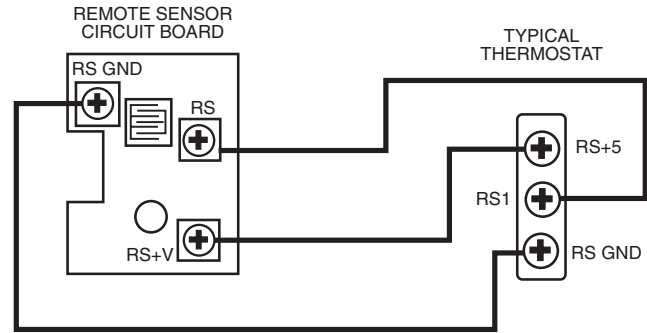

Fig. 2 — Remote Temperature Sensor Wiring
7. Connect wiring to sensor and thermostat wiring terminals. Be sure to follow color coding scheme. See Fig. 2. Connect RS GND terminal on remote temperature sensor circuit board to RS GND terminal on thermostat. Connect RS terminal on remote temperature sensor circuit board to RS1 terminal on thermostat. Connect RS+V terminal on remote temperature sensor circuit board to RS+5 terminal on thermostat.